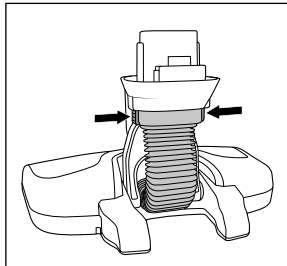

Fig. 17
- ◆ Press the two release buttons 13 on the hose section together and pull off the hose section (see fig. 17).